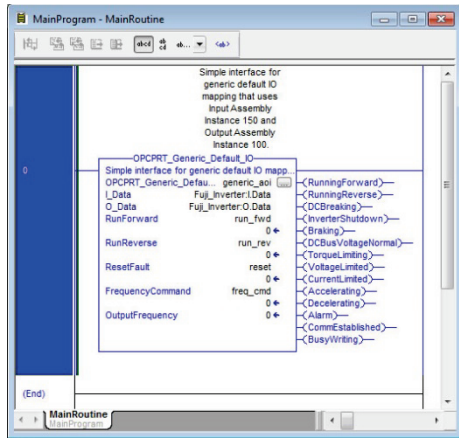

Figure 60: Configure Generic Default AOI
- 10) Edit the add-on instruction according to Figure 60.